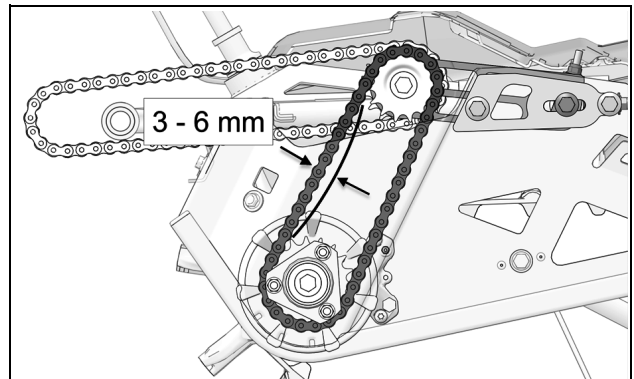

Figure 6
- Apply pressure at center of the two drive pignons. The chain should have 3-6 mm (1/8-1/4 in.) of play. Re-adjust until the right amount of play is obtained. See Figure 6.